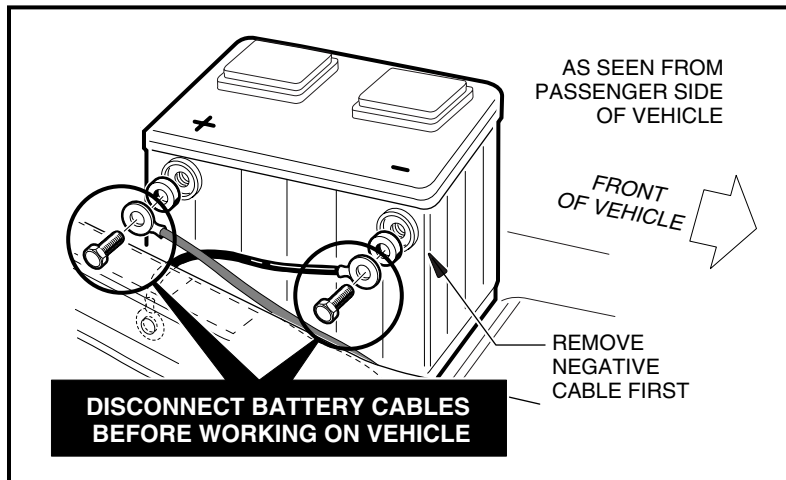

Figure 12-1 Battery Disconnect
2. Disconnect the battery cables as instructed (**Figure 12-1, Page 12-1**). See **WARNING "To avoid unintentionally starting..."** in **General Warning, Section 1, Page 1-2**.